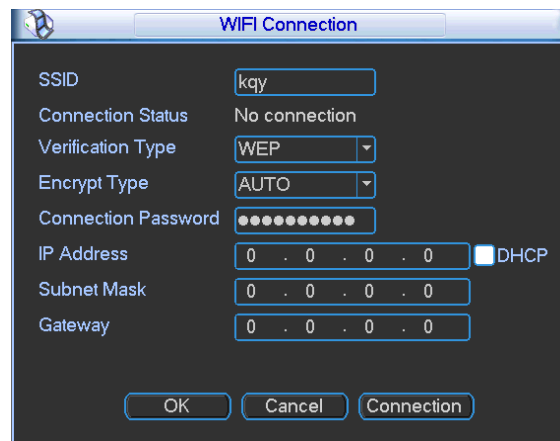

Figure 5-27
- Connect: Here you can click it to connect to the hotspot. System needs to turn off current connection and then connect to a new hotspot if there is connection of you selected one. See Figure 5-27.
After successfully connection, you can see the following interface. You can see it is connected now. See Figure 5-27.